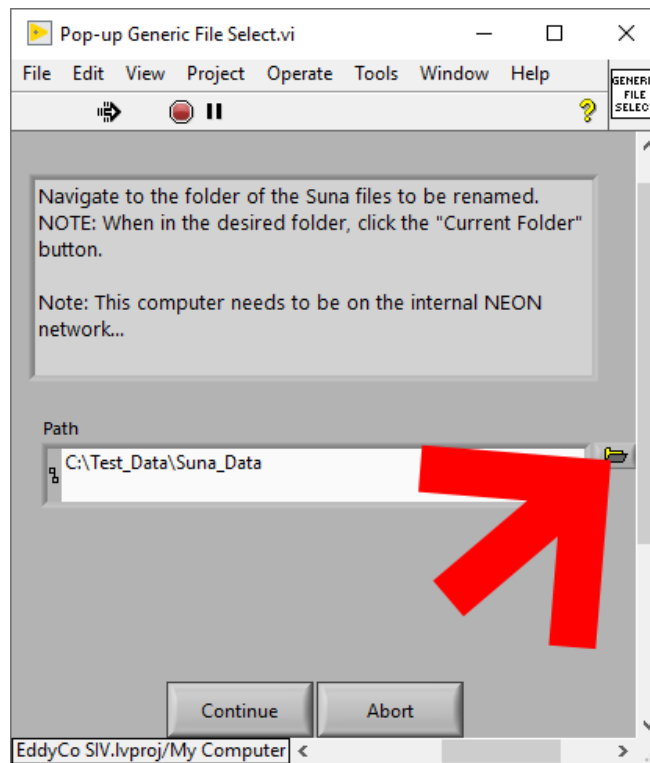

Figure 10. Click the Small Folder Icon next to the Path Field
4. In the pop-up window, click the small folder icon next to the **Path** field (Figure 10).